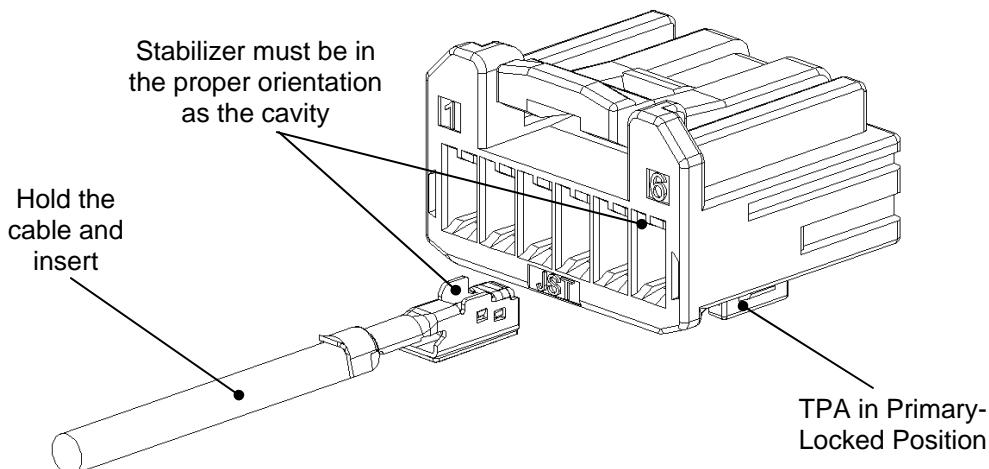

Figure 14. Insertion of Female Terminal to Female Housing Assembly (e.g. 6 positions)
- a) First, confirm that the TPA is in its primary lock position. See Figure 14. The TPA maybe pushed down to its final position during delivering. If it is in that case, release the TPA to its primary-locked position before inserting the terminal. For releasing the TPA to its primary-locked position, refer to section 7.3 of this manual (Releasing the TPA to it's Primary Lock Position).
- b) When inserting the terminal into the housing, check to see if the terminal is in the proper orientation. See Figure 14.